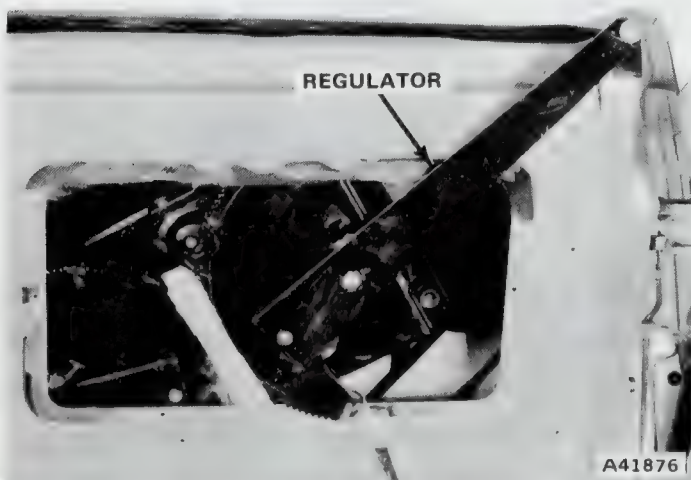

Fig. 3H-25 Tailgate Window Regulator Removal
- (1) Remove tailgate glass assembly.
- (2) Remove access hole covers.
- (3) Move regulator arms to a horizontal position with key switch.
- (4) Disconnect motor wiring from harness.
- (5) Mark regulator position on mounting panel for installation and alignment purposes.
- (6) Remove regulator mounting screws. Remove regulator and motor assembly through access opening (fig. 3H-25).